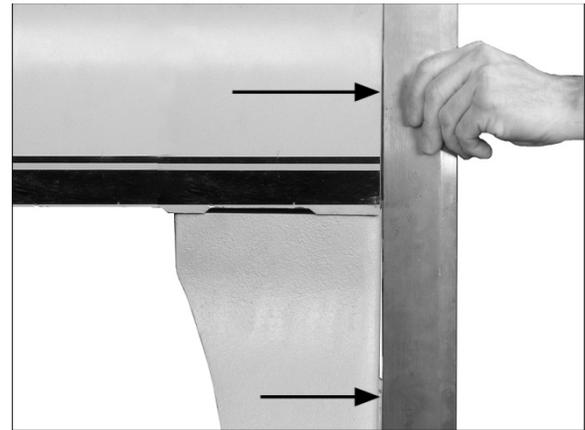

Figure 16
NOTE: If you will be installing the #6294900, 20" Bed Extension Kit (optional accessory), now is the optimal time to verify that right leg and bed end surfaces are flush. See Figure 16 and accompanying text for details.
2. Place a straight edge against bed and raised area of leg (Figure 16). These two areas should be flush. If they are not, support the lathe (with forklift, hoist, etc. – USE CAUTION!) and loosen the screws holding leg to bed. Nudge leg as needed, then retighten screws firmly.